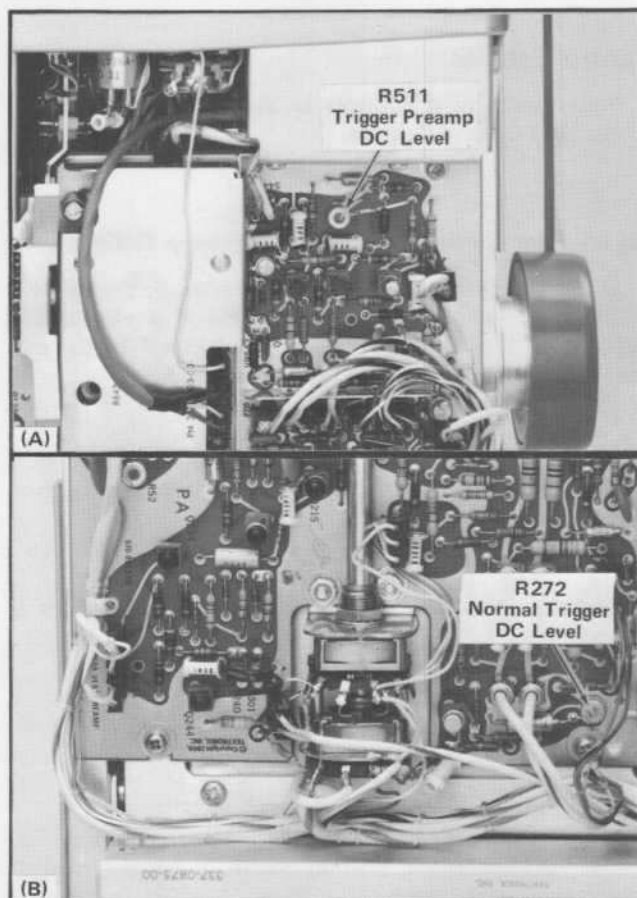

Fig. 5-15. (A) Location of Trigger Preamp DC Level and (B) Normal Trigger DC Level adjustments.
d. ADJUST—Trigger Preamp DC Level adjustment, R511 (see Fig. 5-15) for a stable display.
g. ADJUST—Normal Trigger DC Level adjustment, R272 (see Fig. 5-15) for a stable display.